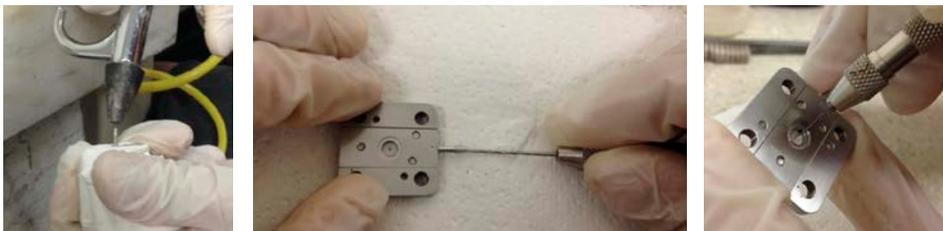

Figure 4-5: (l-r) Blow Air Into Barb; Cleaning Drill; Cleaning Wire
8. When the ultrasonic cleaning is finished, remove the nozzle from its container and wrap it in a paper towel, making sure the barb is still exposed. Use an air hose to cover the barb and blow air through the plate for about three seconds as shown in Figure 4-5.